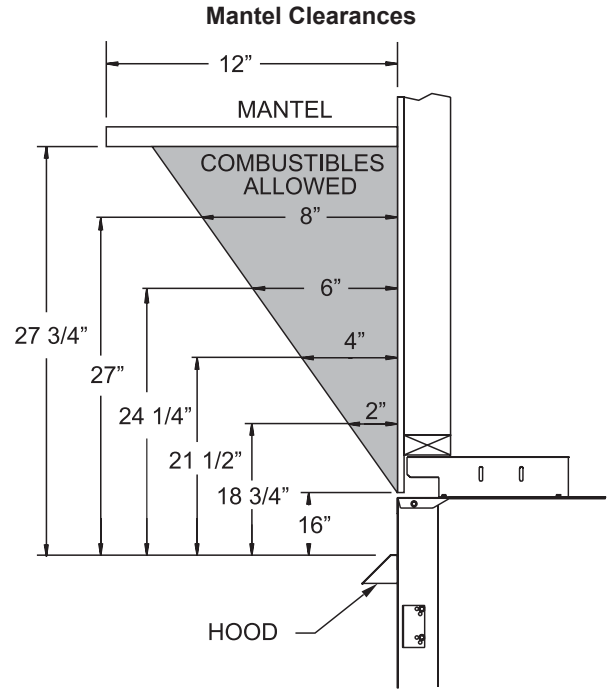

Figure 1
**Mantel Clearances:** Ventless firebox models must use the hood supplied with the firebox. If a combustible mantel is installed, it must meet the clearance requirements detailed in Figure 1.